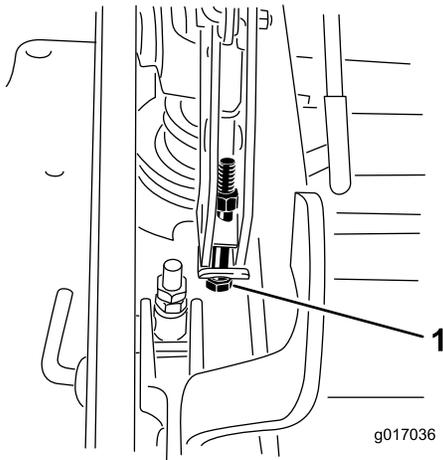

Figure 112
12. If the deck is too low, tighten the single-point-adjustment bolt by rotating it clockwise. If the deck is too high, loosen the single-point-adjustment bolt by rotating it counterclockwise (Figure 112).